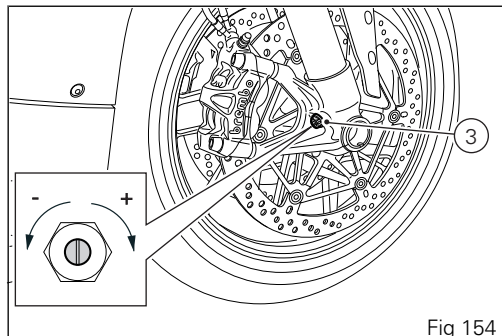

Fig 154
- 3) to adjust the compression damping (3, Fig 154).